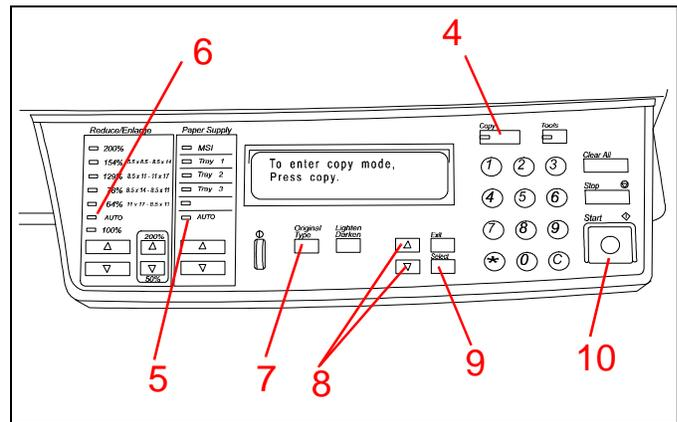

Figure 41
4. See Figure 41. Press the **Copy** button.